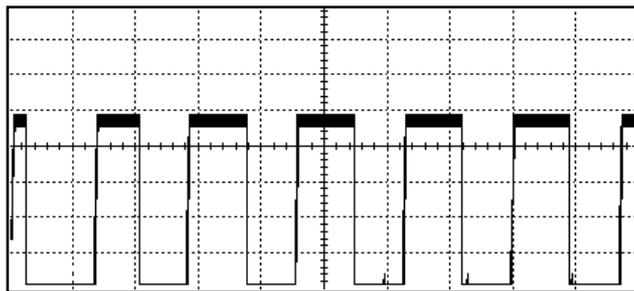

Figure 21. Code signal and start time.
- 16 Check that the signal is as in figure 21, i.e. a square wave with 50% duty cycle, > 0,85 Vp-p, at 3 ms after start.